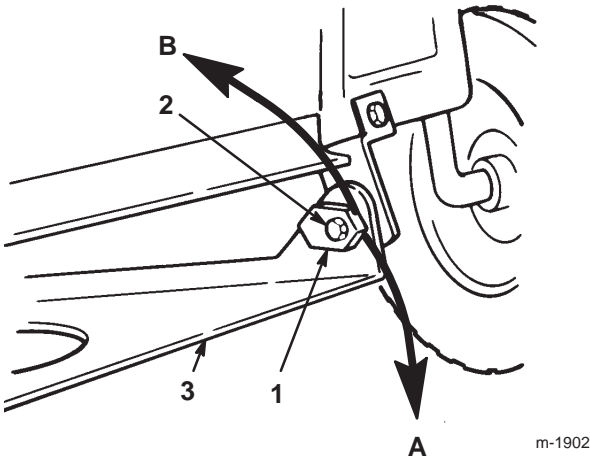

Figure 48
15. Adjust the front-to-rear slope by rotating the special slope adjusting nuts on both sides of the mower pivot mount (Fig. 48).
16. Slowly rotate the left side slope adjusting nut down to raise the front of the mower; rotate the nut up to lower the front of the mower (Fig. 48). Rotate the slope adjusting nut until the front of the mower is 1/4 to 5/8 in. (6 to 16 mm) lower than the rear of the mower.